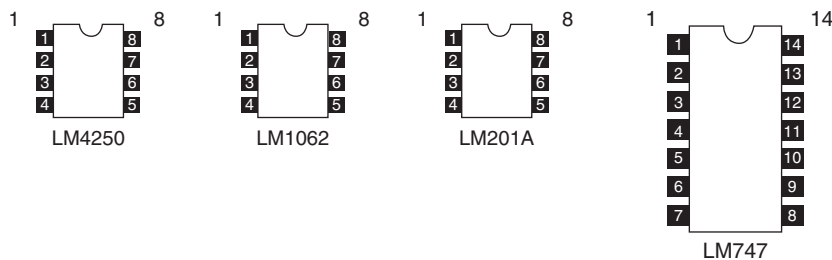

Figure 20-5 Semiconductor pin-outs
The sensor head and the display boards both have integrated circuits on them, so before we begin installing the ICs, take a quick look at the pin-out diagram depicted in Figure 20-5, which will help you orient the integrated circuits. Integrated circuits are highly recommended as an insurance against possible circuit failure at some later date. It is much easier to simply unplug an IC and place a new one in the socket rather than trying to un-solder a 14 or 16 pin IC from a circuit board. Integrated circuit sockets will usually have a notch or cut-out at one end of the plastic IC socket. To the immediate left of the notch or cut-out you will see pin one (1) of the socket. Pin (1) of U1 is connected to one end of potentiometer R4. The IC package itself will also have a notch or cut-out at the top end of the IC. When placing the IC into its respective socket make sure you align pin one (1) of the IC with pin one (1) of the socket. The integrated circuits must be inserted into the socket properly aligned or the circuit will not work and may damage the components. Go ahead and place U1 into its socket on the sensor head PC board.